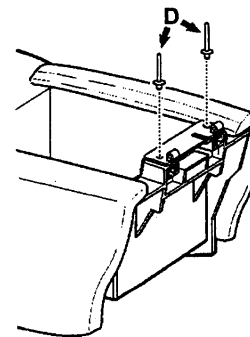

Figure 3
2.3. Rivet the hinge plate and the U-bracket together with the supplied pop-rivets. (Figure 3, arrows D) After riveting, ensure there is no free-play, and that the installation is solid.